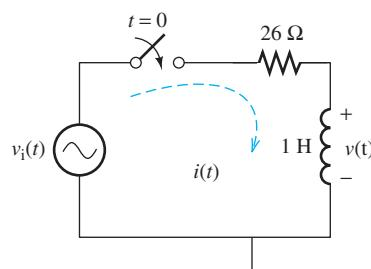

FIGURE P5.51 Circuit for Problem 5.51.
- 5.51 (A) Find $i(t)$ and $v(t)$ in the circuit shown in Figure P5.51 assuming $i_L(0-) = 1 \text{ A}$, and the input voltage $v_i(t) = 30 \cos(15t) \text{ V}$.